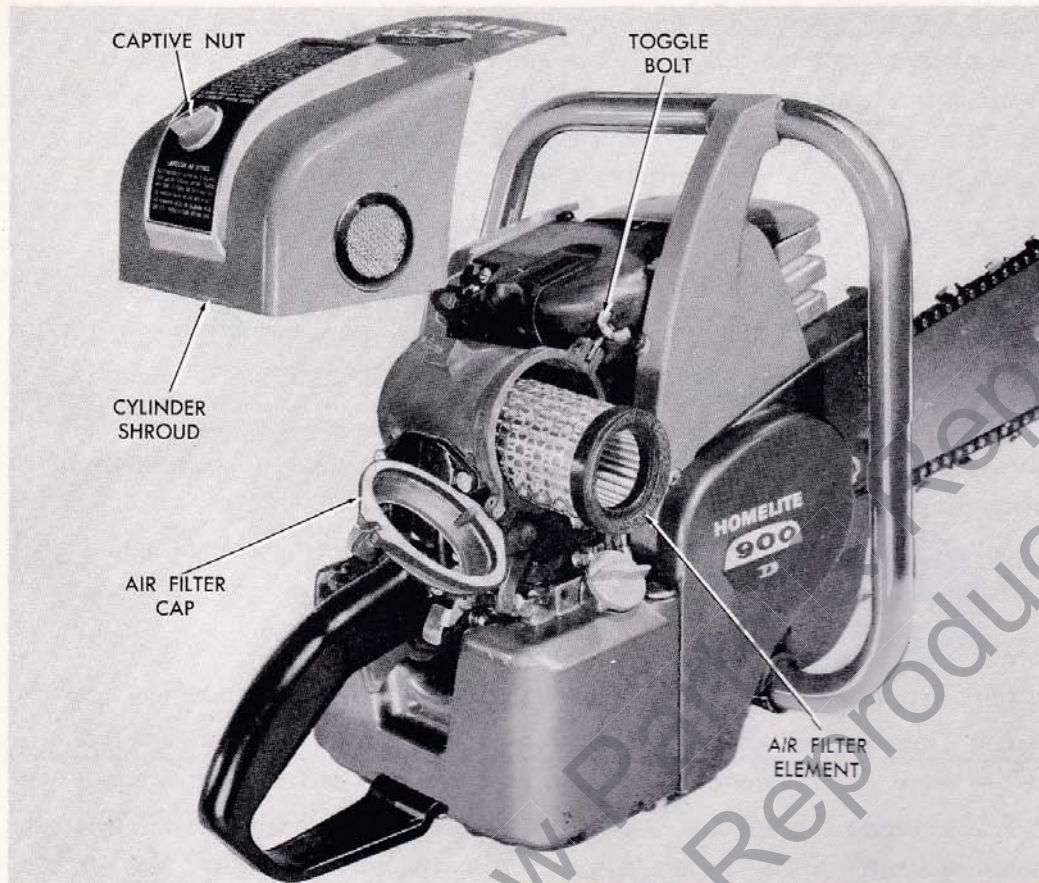

Figure 9—Changing Air Filter
(2) Check the bar rails for uneven wear. If one rail is higher than the other, restore rails to an even height by grinding. However, if both rails are worn so low that the chain drags bottom in the groove, either replace the bar or repair by grinding the grooves deeper. Chain bottom clearance should be a minimum of $1/16''$ all the way around the bar.
(3) After grinding, remove all burrs from the guide bar, and clean it thoroughly to remove abrasives.
(4) If the guide bar groove has been pinched so that the chain drags, open the groove. If the bar has been bent, and has a permanent set, have it straightened. Do not ruin your chain on a damaged bar.
a. Air Filter (See figure 9)
(1) NEVER OPERATE THIS SAW WITHOUT AN AIR FILTER.
(2) TO CHANGE AIR FILTER. (See Figure 9.)